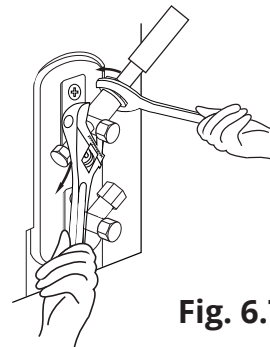

Fig. 6.7
- While firmly gripping the nut on the unit tubing with the spanner, use an HVAC torque wrench to tighten the flare nut (**Fig 6.7** below). Continue to tighten the flare nut with the torque wrench until specified torque rating listed in the table to the left is reached.